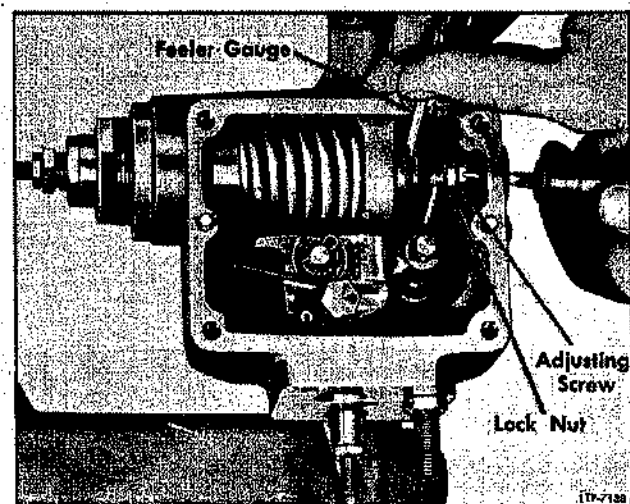

Figure 42—Low Speed Spring Gap Adjustment
Check gap between low speed spring cap (61) and modulating spring plunger (57) with .0015 feeler gauge (fig. 42), or by using oil bead method.